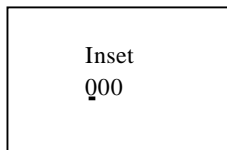

Fig. 4.15 Insert Function Block
1. Press OK when the cursor points at “Insert FB” in the Editor Frame, that’s, “>Insert FB”, then the inserting status appears, as shown in Fig. 4.15.